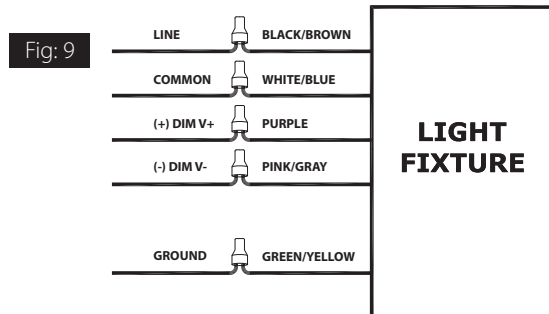

Fig. 9
2. Make appropriate wire connections per NEC in an approved enclosure (*not included*) see **Fig. 9**.
2. Make appropriate wire connections per NEC in a approved enclosure (*not included*) see **Fig 9**.
Universal voltage driver permits operation at 120V thru 277V, 50 or 60 Hz. For 0-10 Dimming, follow the wiring directions as shown in **Fig. 9**.